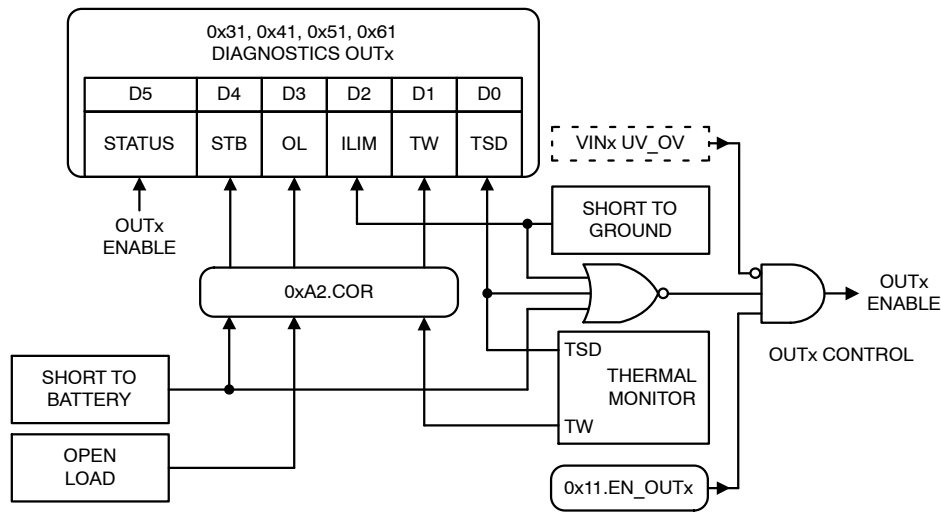

Figure 12. Per-channel Diagnostics Mapping and COR Configuration
Figure 12 shows the basic register structure and output control topology. Latched driver output fault types – current limit (ILIM) and thermal shutdown (TSD) – are those that disable and latch the affected outputs off after a delay time (configurable for ILIM via the 0x12.LATCH_X bits) when a fault is detected and latch the event into the register's respective fault status bit. Non-latched driver output fault types – short to battery (STB), open load (OL), and thermal warning (TW) – are those that may temporarily disable the affected outputs while a fault is present then re-enable it automatically when the fault resolves.